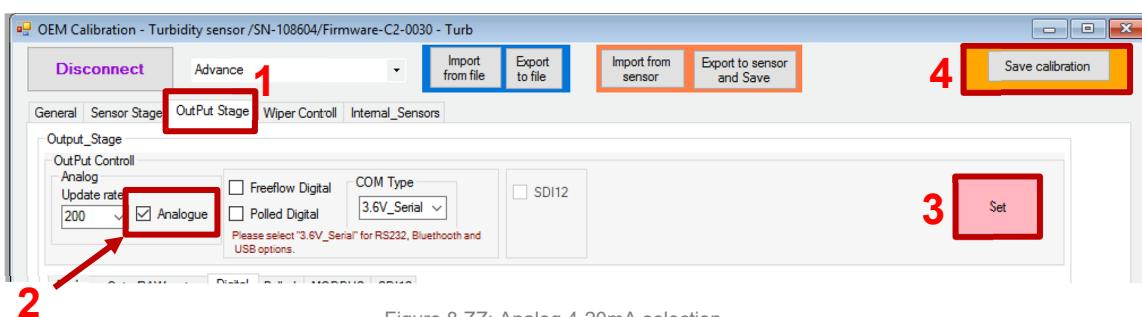

Figure 8.ZZ: Analog 4-20mA selection
- Select “OutPut Stage” option (Figure 8.ZZ: Analog 4-20mA selection#1).